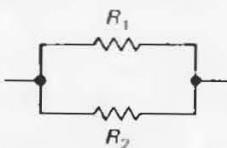

Figure 1.4
**2.** The resistance of two resistors in parallel (Fig. 1.4) is